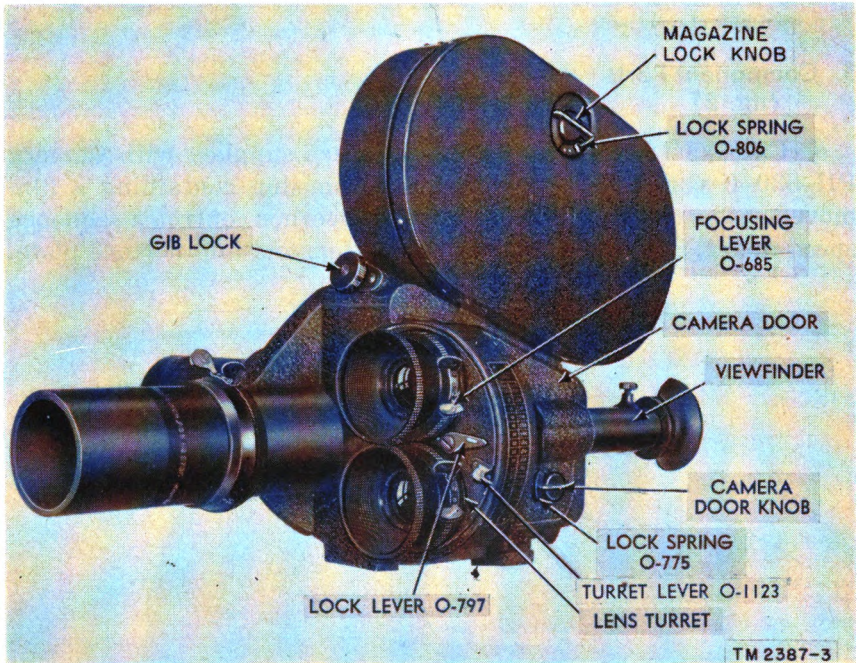

Figure 3. Camera, front and left side.
a. CAMERA (figs. 3 and 4). The camera supplied with Camera PH-330-K consists of a metal frame housing containing a film movement mechanism, a lens turret, a governor control, a sequence speed meter, a viewfinder, a reflex shutter, and an aperture plate.
- (1) *Camera frame.* The main frame of the camera is die-cast aluminum alloy with a crackle finish. This casting holds the optical system and all the camera moving parts in alinement. A camera door (fig. 3) is detachable as a unit
- (2) *Lens turret.* The rotatable turret head (fig. 3) mounts three lenses. The turret may be rotated in either direction so that any one of the three lenses may be placed in position instantly. The turret is constructed with a detent mechanism so that each lens may be positioned properly either for critical focusing or for photographing.
- (2) Open the magazine door by pressing on the film lock spring and by rotating the lock knob (fig. 3) in the direction indicated by the arrow on the magazine body. Lift off the door. Hold the magazine with the light trap toward your body and thrust the trimmed end of the film through the left-hand side of the light trap, moving the sprocket with the gear at the bottom of the magazine.